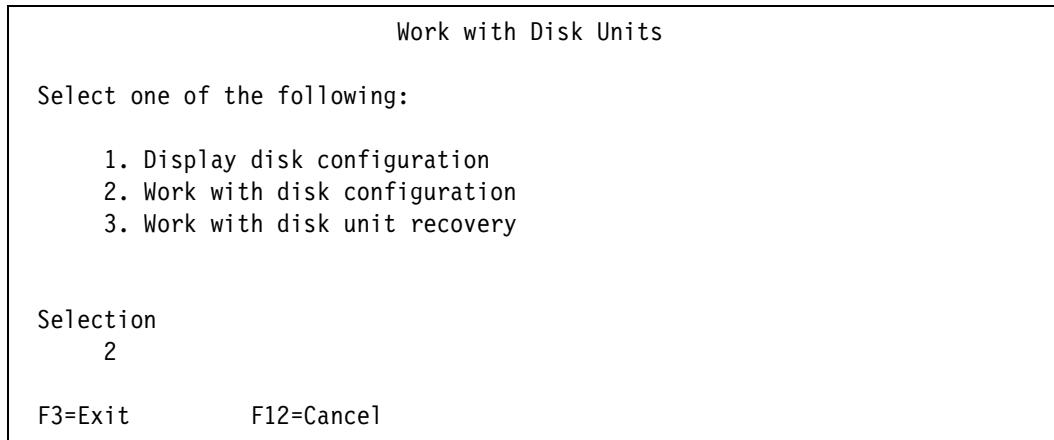

Figure 17-2 Work with Disk Units menu
3. Select Option 2, Work with disk configuration, as shown in Figure 17-2.